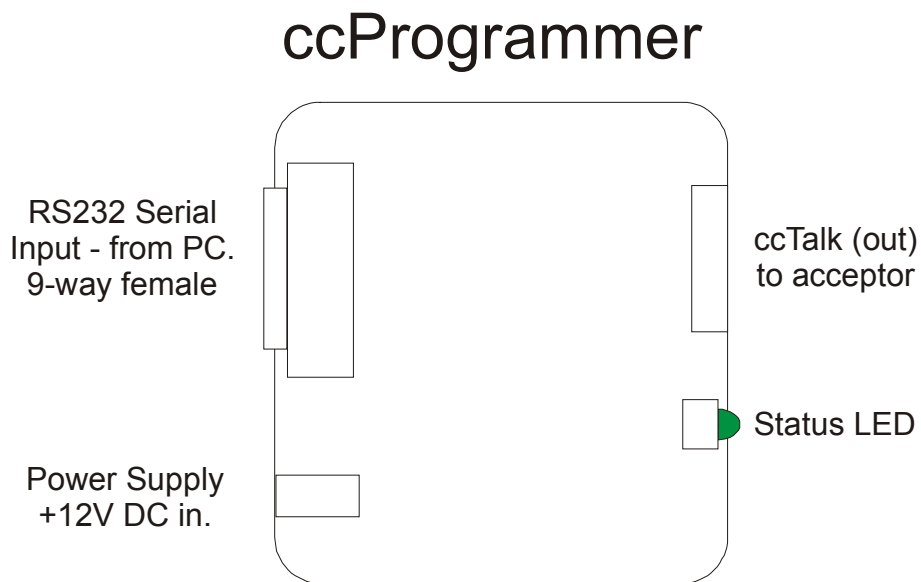

Figure 1: ccProgrammer layout
- 1 x **ccProgrammer** pod. (see Figure 1).